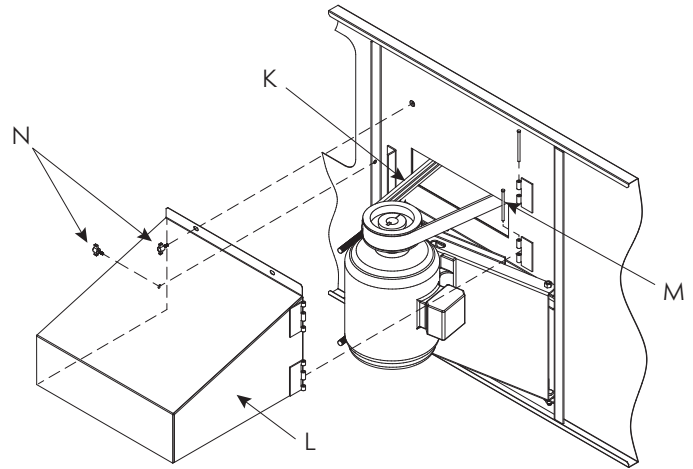

Figure 17b – Motor Guard and Power-Band Belt Installation
7. Install Power-Band belt **K** (**Figure 17b**) around fan sheave and motor sheave. Tighten belt by adjusting nuts on J-bolts. Do not overtighten the belts. The center of the belt should deflect approximately 1/2" (12.7mm) in the horizontal plane with moderate hand pressure.
10. To install motor guard **L**, match up hinges and install hinge pins **M** as shown in **Figure 17b**.